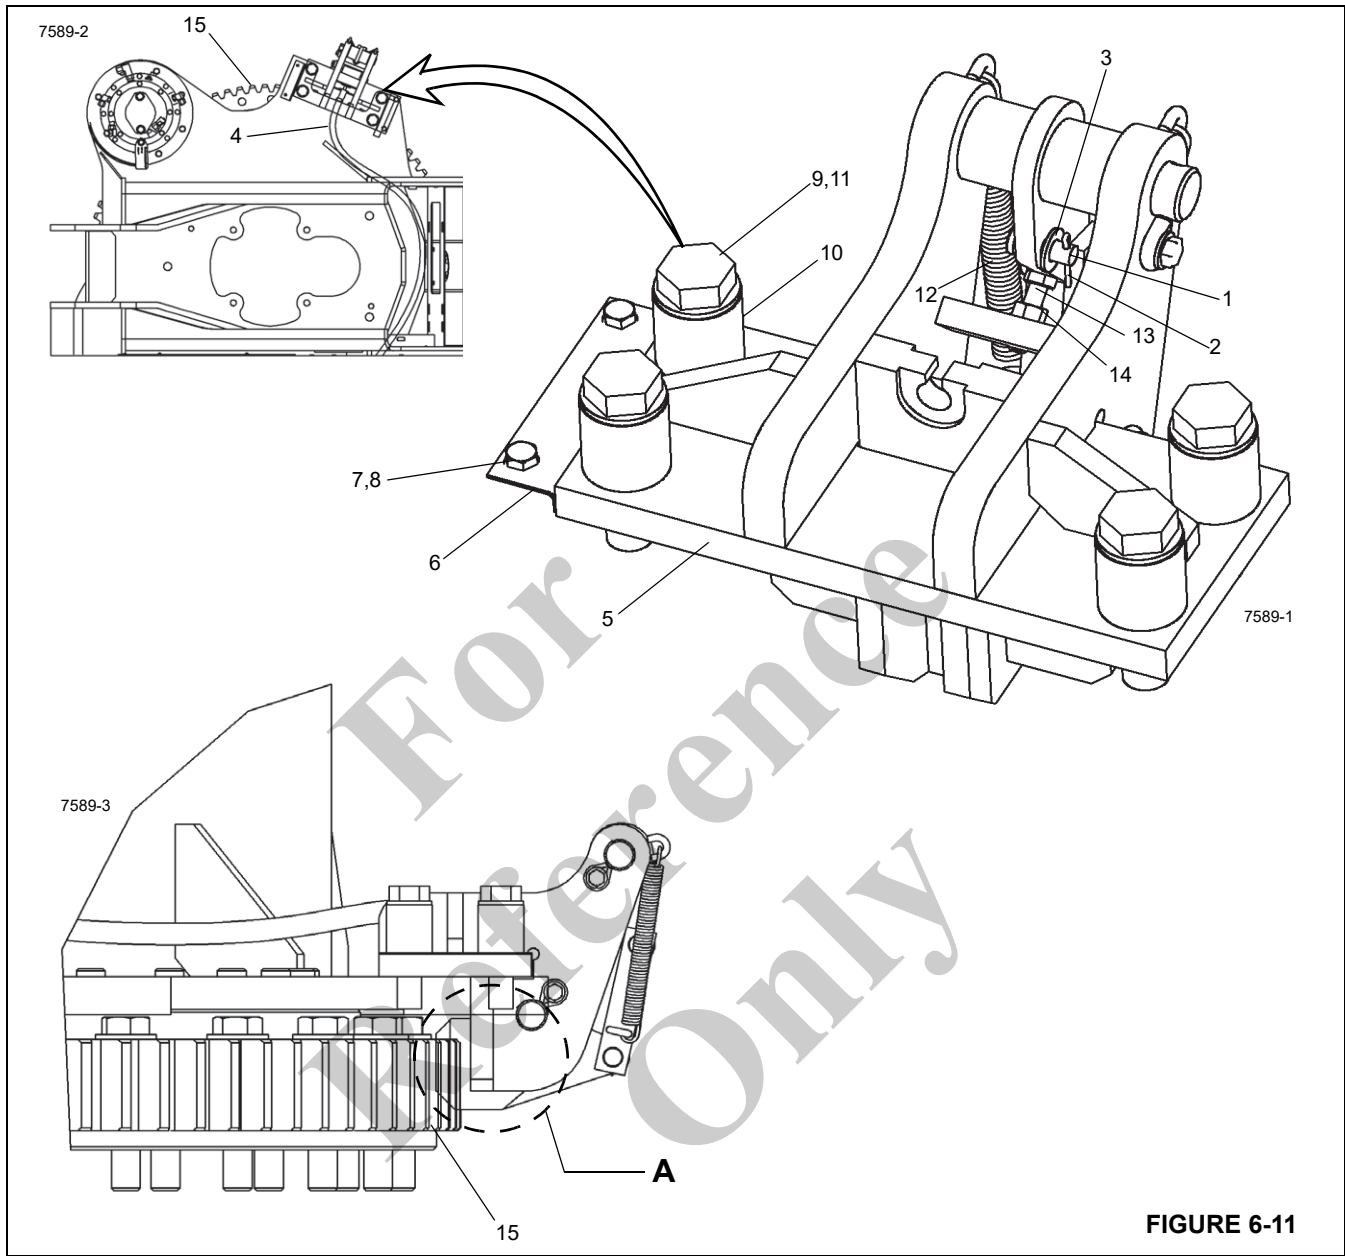

FIGURE 6-11
1. Release the swing lock foot pedal and be sure the lock is disengaged from the turret bearing ring (15, Figure 6-11).
2. Remove the clevis pin (1, Figure 6-11), cotter pin (2) and washer (3) securing the cable (4) to the swing lock (5).
3. Attach the cable (4, Figure 6-11) to the swing lock (5) with clevis pin (1), cotter pin (2) and washer (3).
4. Adjust the cable (4, Figure 6-11) using the following instructions.